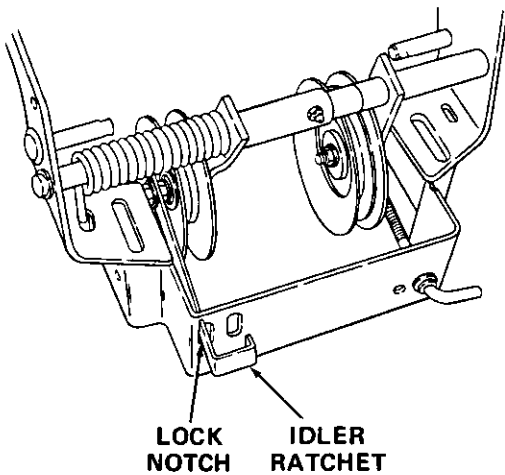

Figure 18
- Push the idler ratchet in and up to engage the lock notch. Refer to Figure 18.
1. Push the idler ratchet in and up to position it in the lock notch. Refer to Figure 18.